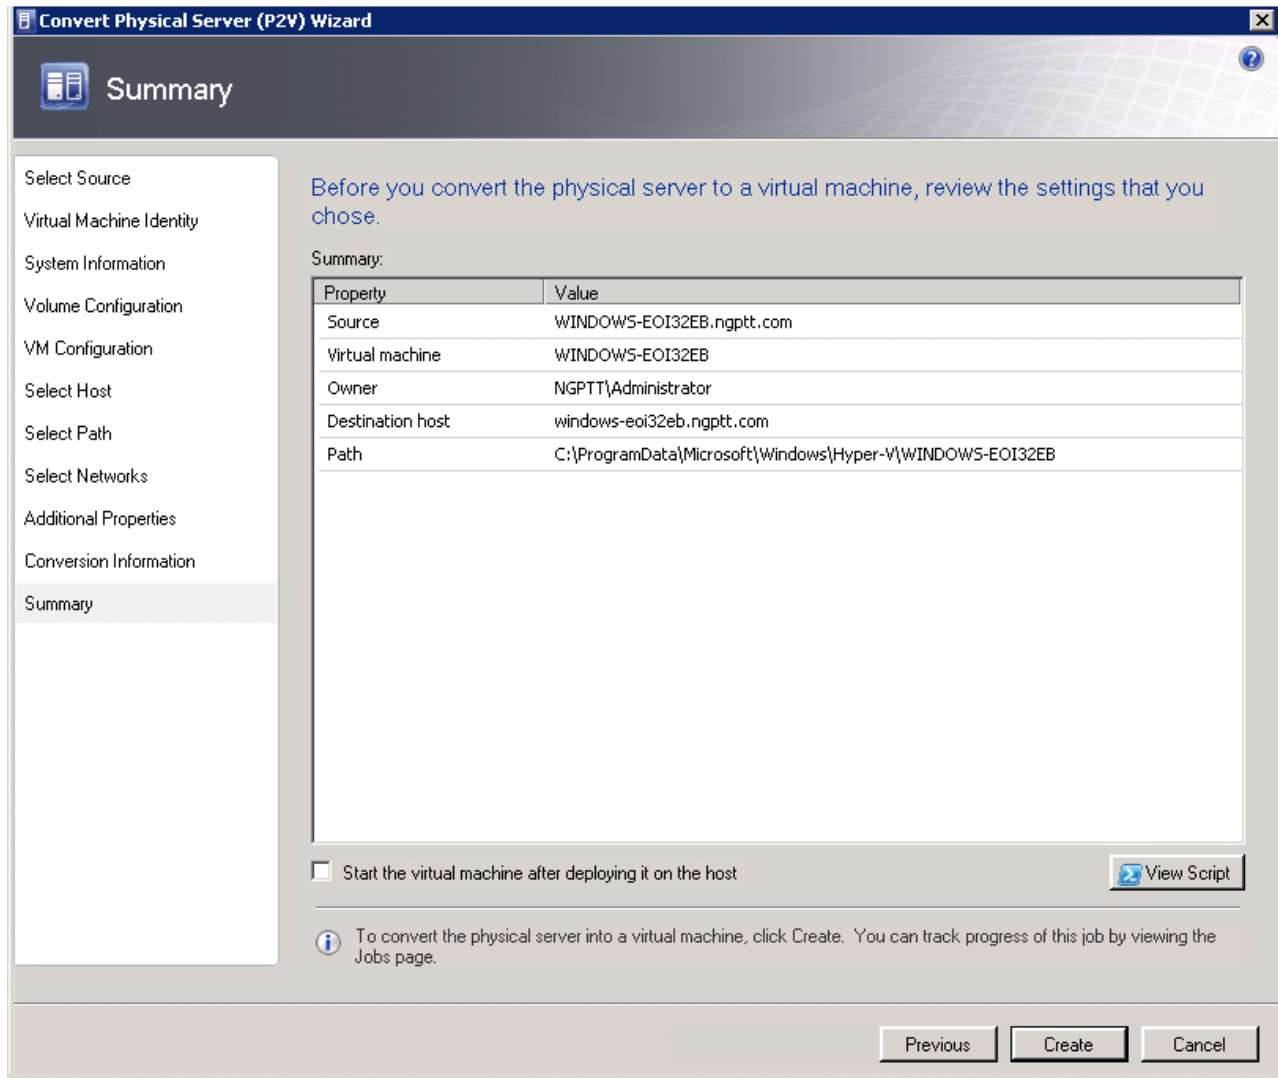

Figure 3-51 SCVMM P2V wizard: Summary
8. After the configuration is complete, review the Summary page, as shown in Figure 3-51. Click **Create**.